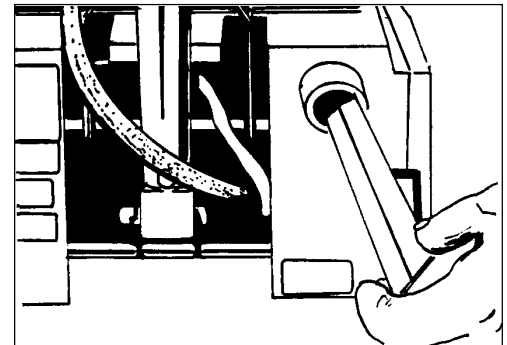

Figure 23
7. Check the objects in the vacuum opening. Use a stick to remove any objects caught under the brush housing. See figure 23